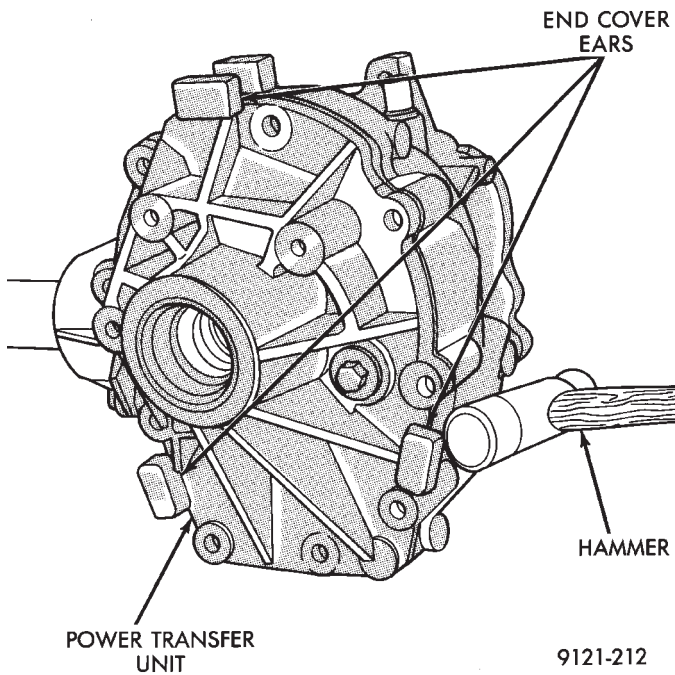

Fig. 7 End Cover Removal
(3) Tap on end cover ears to separate end cover from case (Fig. 7).